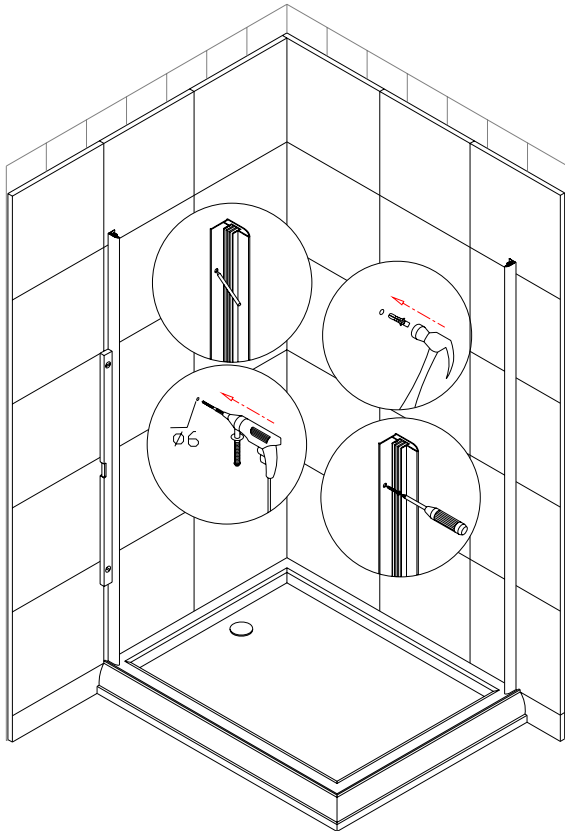

Fig 1
1. Start installation from the shorter wall. Locate the **L-shape wall profile (1)** from the package then place it vertically above the tray 30 7/8" or 34" (refer to Diagram 1) from the corner to the external edge of the profile. Using a level adjust the L-shaped profile upright, then use predrilled into aluminum profile holes to put on marks for drilling. Now drill the holes and insert the **wall anchors (10)** into the hole. Using 4X30 round head self-tapping screw (13) to attach the Wall profile to wall (fig 1).